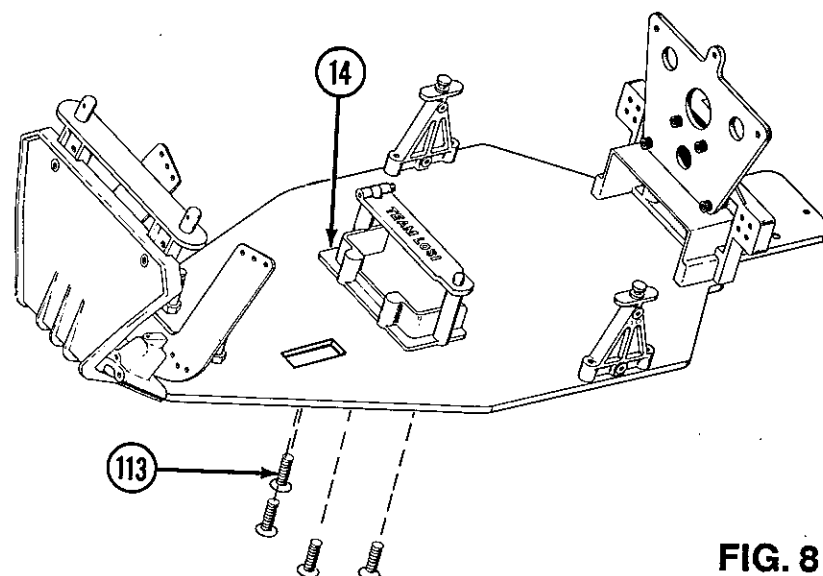

FIG. 8
14. Attach battery box (14) to chassis (2) using four 8-32 x 3/8" flathead aluminum screws (113) Fig. 8.